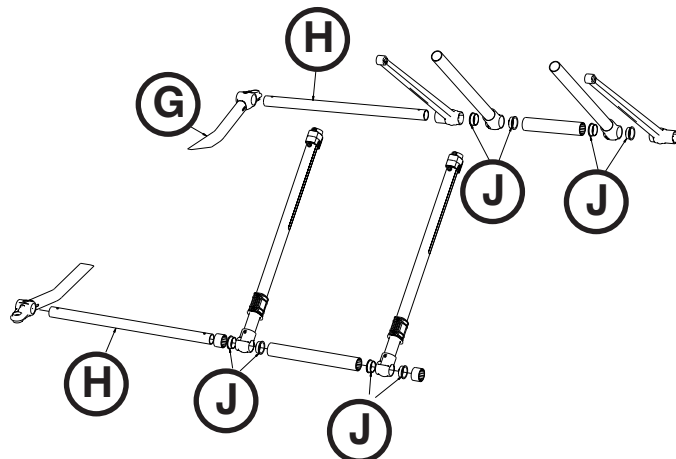

Figure 77
6. Remove the outer base tube weldment (G) on the side that is damaged. Leave the opposite side on to support the X-frame (Figure 77).
7. Slide the foot base tubes (H) through the X-frame legs to loosen the X-frame (Figure 77).
8. Remove the inner tube and save the bushings (J) to reuse on the new tube (Figure 77).